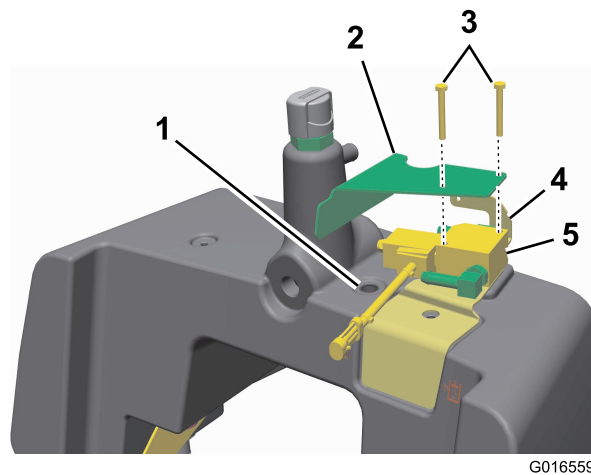

Figure 5
15. Install the 90-degree beaded hydraulic fitting to the main hydraulic tank (Figure 5).